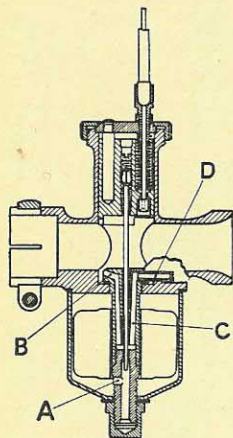

FIG. 79.—SECTION THROUGH TYPE 3/4 CARBURETTER.
In the Mark 10D carburetter fuel enters the jet body through a hole (A, Fig. 79), and passes through the jet in which the long taper needle operates, and passes up through an offset hole (B) in the centre piece. The position of this needle relative to the slide can be altered by removing the screwed ring and top disc and screwing up or down the small screw
On both the Mark 10D and Mark 6E carburetters, a further refinement to compensate for engine speed, which also assists in atomising the fuel, is provided. The offset hole (C, Fig. 79) in the centre piece allows air to enter just above the needle jet, which it should be noted is submerged. This hole communicates with the atmosphere through a tube (D). The size of this hole in the centre piece determines the amount of correction provided.